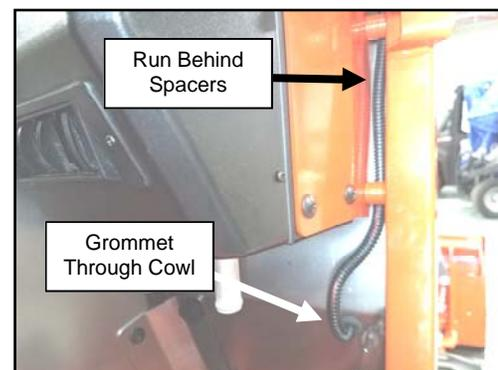

Fig. 16.6 (Pass Wire Harness Through Cowl)
- 16.6** Slide the provided 3/8" ID rubber grommet over the free end of the wire harness and install through the 1/2" hole in the cowl. See Figure 16.6.